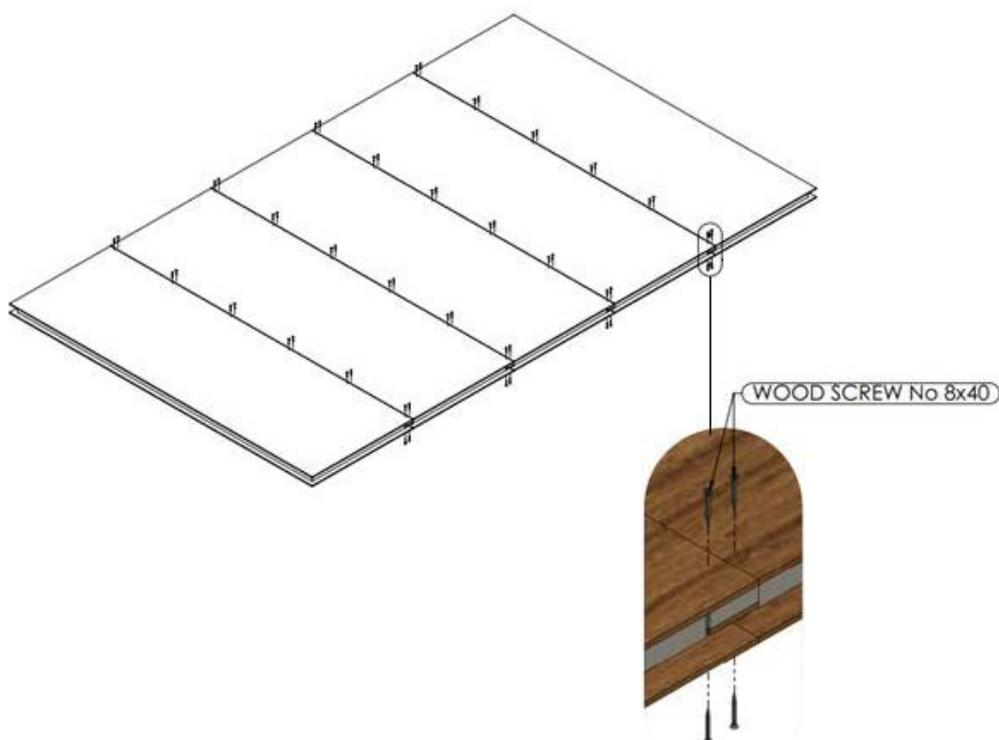

Figure 2: Connecting the panels by screw
2. Align panel edges tightly so joints are fully seated. On the first side, secure all joints using 4.5 × 40 wafer head wood screws (Figure 2).